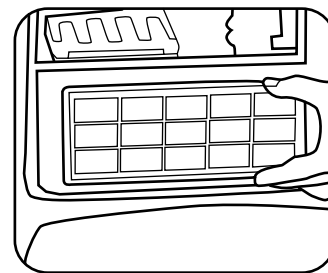

Fig. 6
2. Remove the HEPA filter from the front of the bag compartment (Fig. 6).